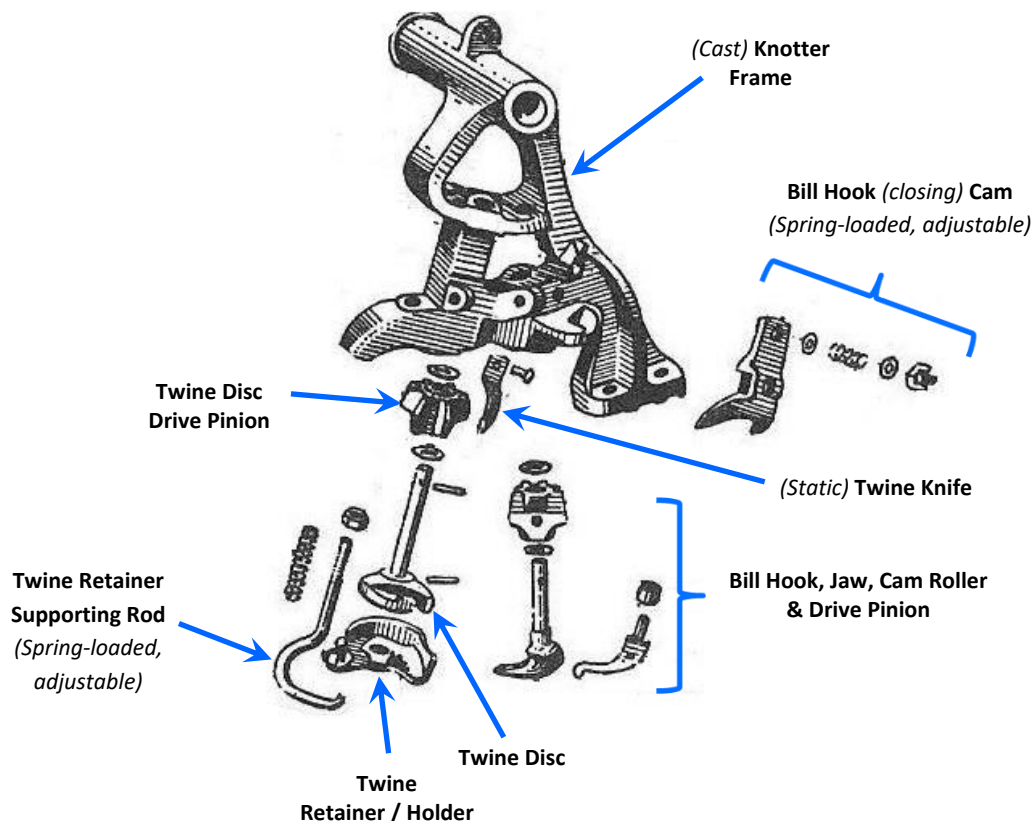

Fig.3.7 McCormick binder knotter – key components
- Is relatively thick & has a slightly conical upper surface, with two slots running across it, one on either side of its central drive shaft (*Figs 3.7, 3.8 & 3.9(a)*)
- An almost circular plate-type Twine Retainer is pressed against the underside of the Twine Disc by a spring-loaded, cranked rod (*Figs 3.7 & 3.8*). A vertical rim extends around approx. $\frac{2}{3}$ of the Retainer's edge and partly encloses the edge of the twine disc (*Fig.3.9(a)*)
- The far side (*approx. $\frac{1}{3}$*) of the Twine Retainer (*disc*) is cut-away (*Figs 3.7, 3.8 & 5.12*). Consequently, as the Twine Disc rotates, upon reaching the cut-away section of the Retainer, any twine held by it is released